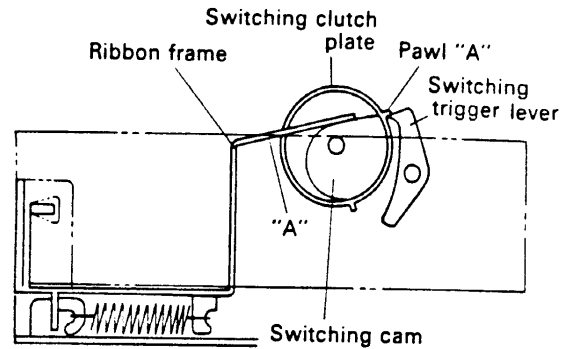
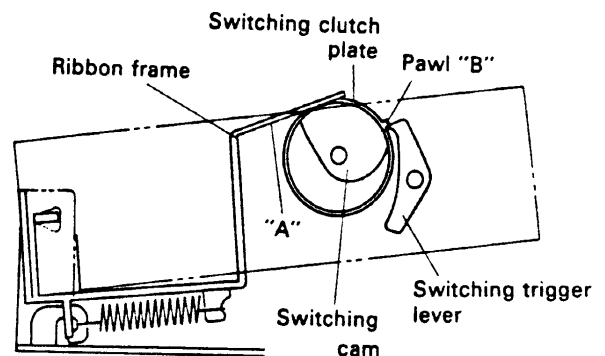
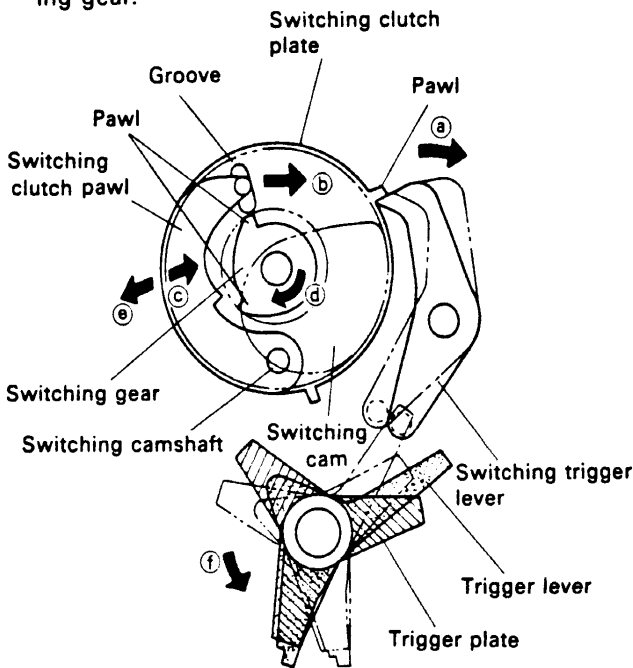

Fig. 1-23. Black Printing Status
Fig. 1-24. Red Printing Status
Fig. 1-26. Operation of Switching Clutch
Black Printing Status (see Fig. 1-23)
Red Printing Status (see Fig. 1-24)
Operation of Switching Clutch (see Fig. 1-26)
Initialization (see Figs. 1-23, 24, and 1-26)
- ① When the trigger coil is charged with the prescribed pulse (see "1. Initialization" of the "Model-262 Operating Description," on page 1-14), the trigger plate is drawn toward the trigger coil, adheres to the trigger yoke holder of the carrier driving cam ass'y, then rotates in the \blacktriangleright arrow \textcircled{f} direction shown in Fig. 1-26. The rotating force is also transmitted to the trigger lever which is combined with the trigger plate so the trigger lever is rotated in the \blacktriangleright arrow \textcircled{a} direction of Fig. 1-26.
- ② Rotation of the trigger lever causes the switching trigger lever to rotate in the \blacktriangleright arrow \textcircled{a} direction of Fig. 1-26.
- ③ Rotation of the trigger lever disengages it from the switching clutch plate so that the switching clutch plate and switching cam rotate in the \blacktriangleright arrow \textcircled{d} direction.
- ④ When the trigger coil is recharged at the moment that the switching makes a 50% rotation after the initial charging, because the switching clutch plate continues rotating if the ribbon switching mechanism was in black printing status (Fig. 1-23), the mechanism will not operate despite operation of the switching trigger lever. If initially in the red printing status (Fig. 1-24), the switching clutch plate will be stopped by the switching trigger lever and the black printing status (Fig. 1-23) will be assumed, so the switching trigger lever rotates in the \blacktriangleright arrow \textcircled{a} direction, it becomes disengaged from the switching clutch plate, then the switching clutch plate and switching cam begin rotating once more.
- ⑤ When the switching gear rotates further and the trigger coil is charged with the prescribed pulse, the switching trigger lever rotates. Consequently, the switching trigger lever becomes disengaged from the switching clutch plate, the switching cam rotates, and the ribbon switching mechanism switches from the red status to black status then assumes standby mode.
(see Figs. 1-23, 1-24, 1-25, and 1-26)
"Model-262 Operating Description," on page 1-15), the switching trigger lever rotates and becomes disengaged from the switching clutch plate, and the switching cam rotates (Fig. 1-26). Next, if the mechanism either switches to red status (Fig. 1-24) if it was in black status (Fig. 1-23), or switches to black status (Fig. 1-23) if it was in red status (Fig. 1-24).